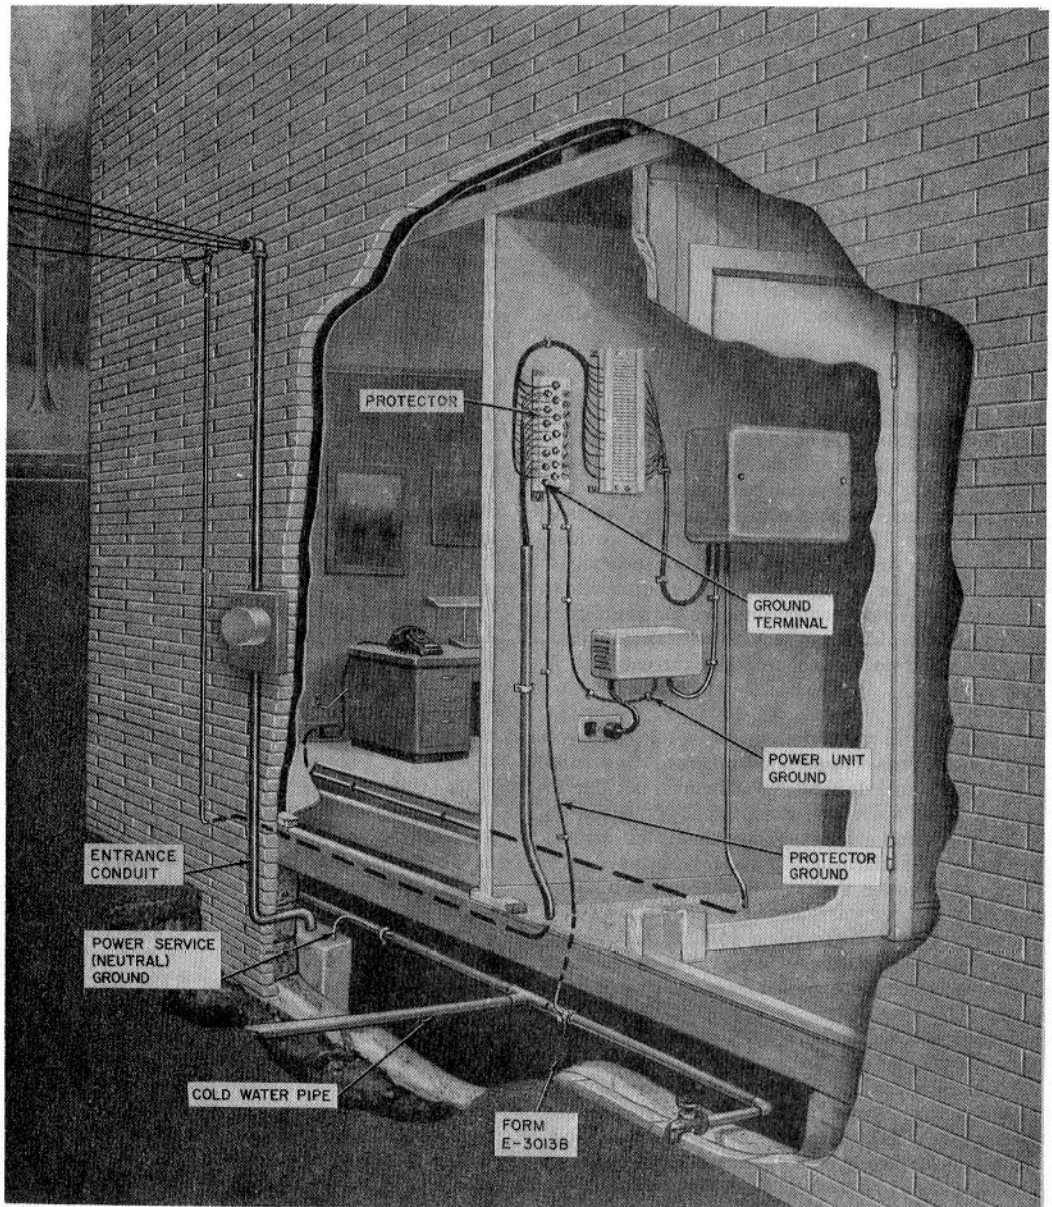

Fig. 1—Properly Grounded 1A2 Key Telephone System
2.03 ***KTS installations usually require station protection in lightning areas regardless of power exposure of the telephone plant.*** This condition is discussed in more detail in Part 4 of this practice. Briefly, however, the key station must be protected from the voltages that can be developed between any two ground points. These ground points include the KTS power supply ground, the commercial power ground, the station protection ground, and the CO or PBX ground. ***It is strongly recommended that protection of KTS lines always be considered in areas where thunderstorm activity can occur.*** The lack of such protection can result in damage to and failure of circuit pack and power supply components. Fig. 1 illustrates a typical installation protected and grounded according to the requirements presented here.